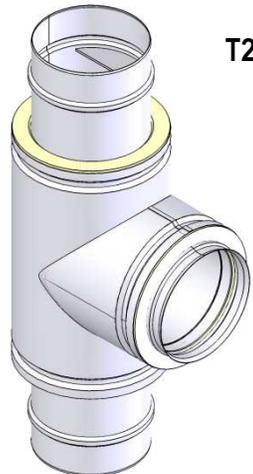
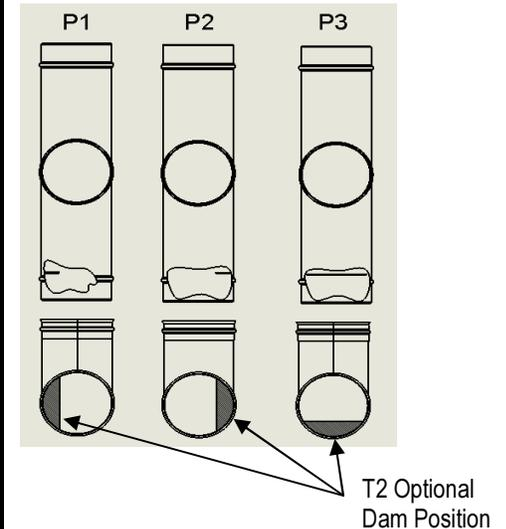

Figure 46
Figure 47
2) **T2 Grease Tee (Figure 46)** has inverted female and male ends and covers mostly horizontal grease dam configurations. Refer to **Figure 47** for dam position.